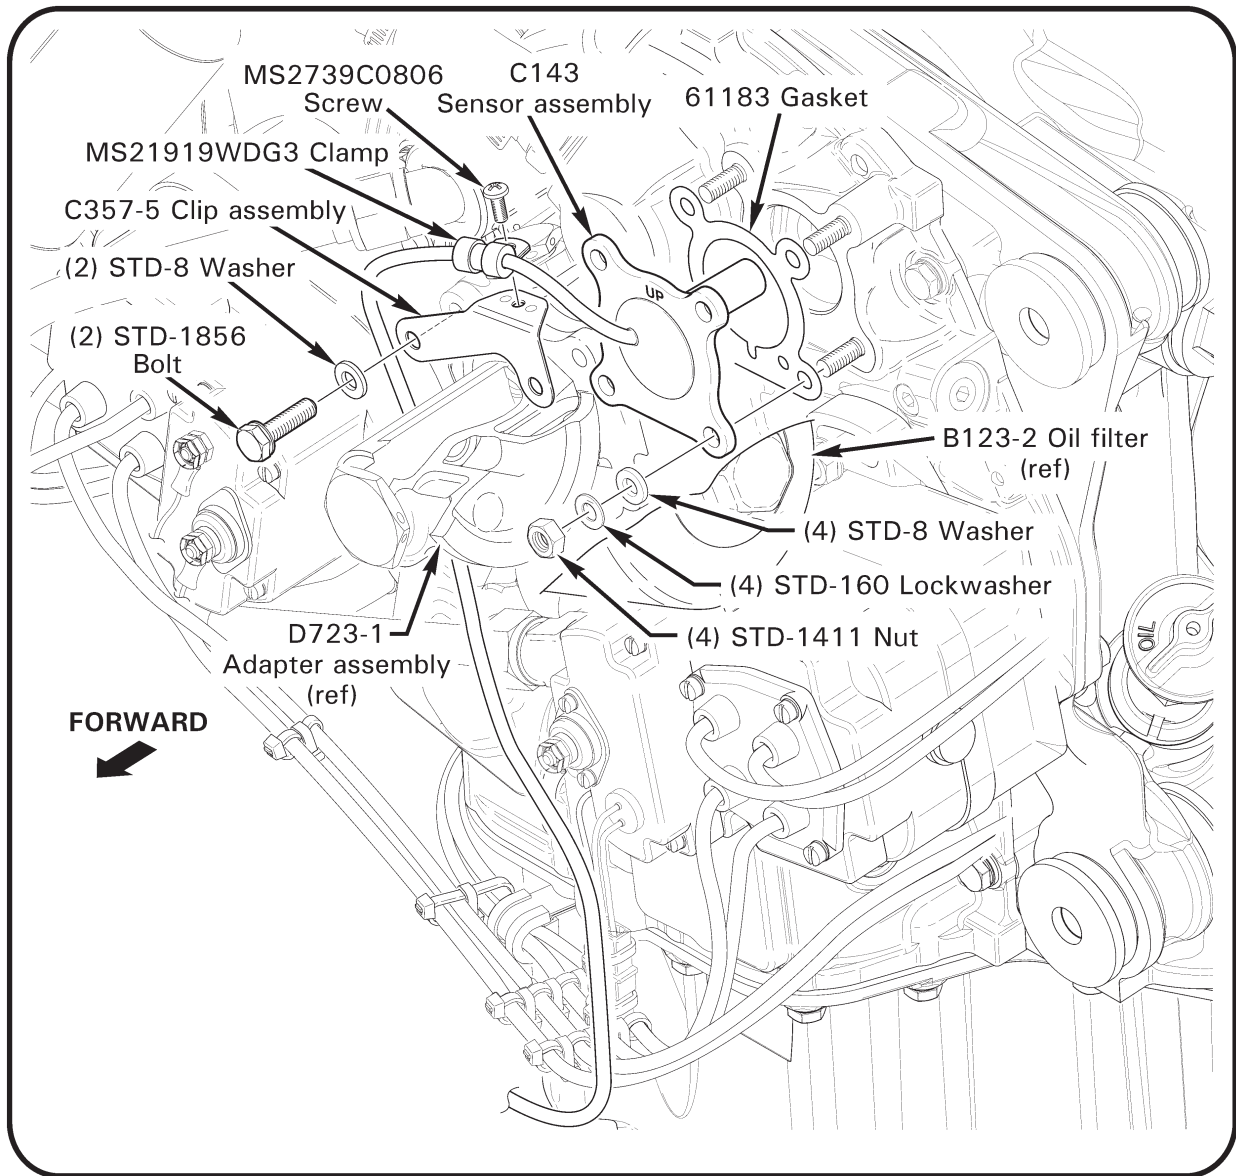

FIGURE 1 Location of sensor & bracket
4. Refer to Figure 1. Disconnect C143 sensor assembly from airframe harness, cutting ty-raps as required. Remove & retain hardware securing C357-5 clip assembly. Remove sensor assembly and gasket; retain hardware. Temporarily cover engine openings. Discard (4) internal teeth lockwashers, MS21919WDG3 clamp & attaching screw, and clip assembly.